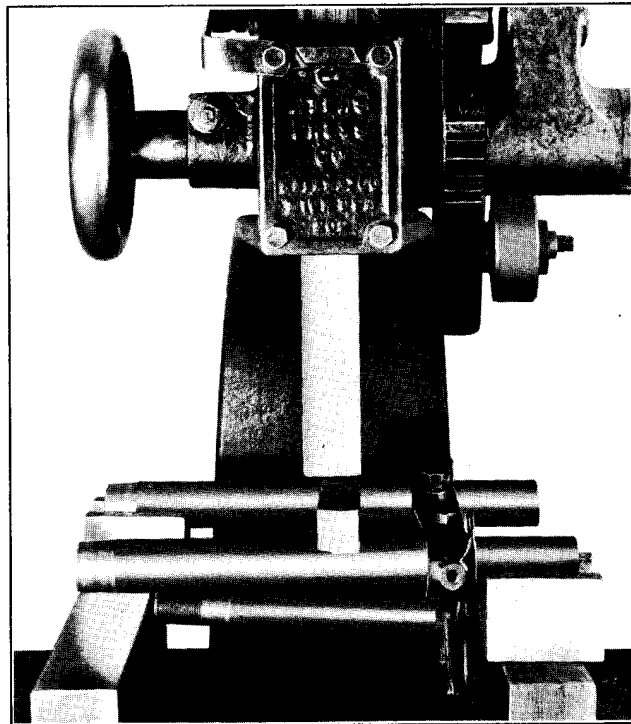

Figure 2-34H. Straightening Fork Stem and Bracket Assembly
#### STRAIGHTENING FORK STEM AND BRACKET ASSEMBLY (Figure 2-34H)
Insert two steel gauging bars in the fork bracket and secure in place with two bracket pinch bolts as shown in Figure 2-34H.
If both legs are twisted, place bracket assembly in position or arbor press as shown in Figure 2-34H. Place two straightening blocks under low legs (A and B). With press block (Z) placed straight across bracket assembly, press until legs (C and D) are forced down and into alignment with legs (A and B).